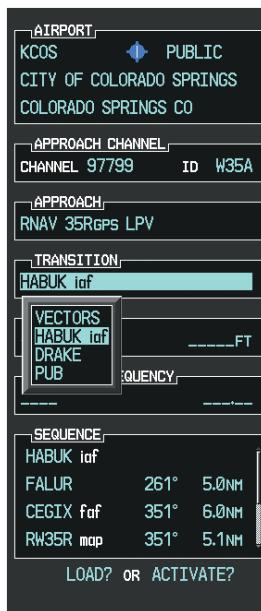

Figure 5-126 List of Available Transitions
- e) Press the **ENT** Key. A list of available transitions for the selected approach is displayed as in Figure 5-126.